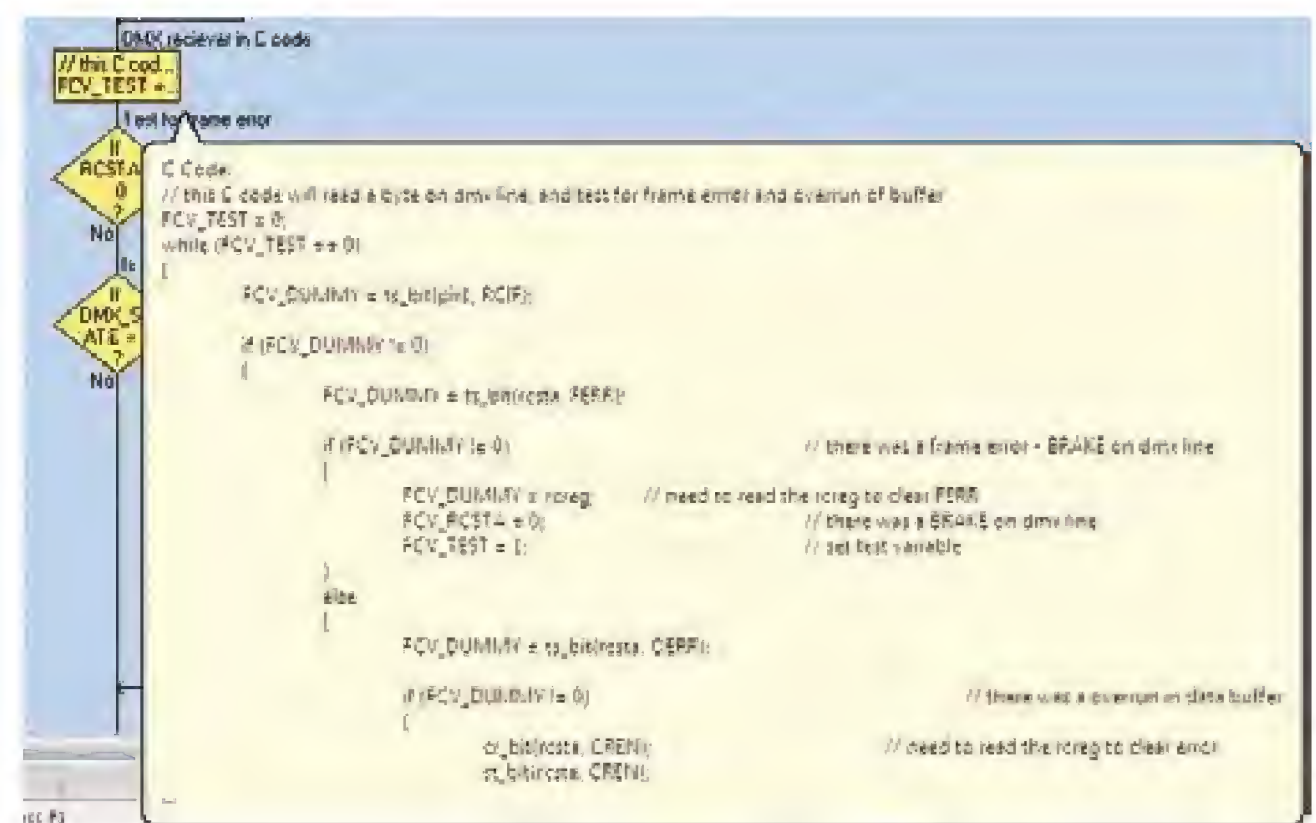

Figure 2. The C code box handles the DMX512 data reading and frame error / overrun detection.
Step2. The next thing was the DMX receiver part, this was a bit more tricky to get right as it makes use of the standard Flowcode RS232 component and a C code box. The RS232 macro call is used to setup the baud rate for the receiver (250 Kbits/s) and to enable the hardware. The C code box (Figure 2) contains the code that takes care of receiving incoming DMX data and testing for errors. The DMX data format is defined as (in sequence and extremely simplified):